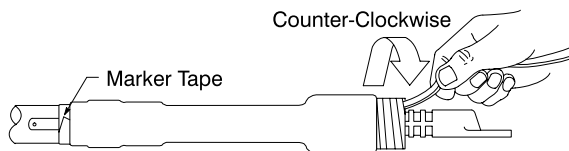

Figure 4
4. Install termination onto cable, and unwind core, allowing termination to shrink into place (Figure 4).